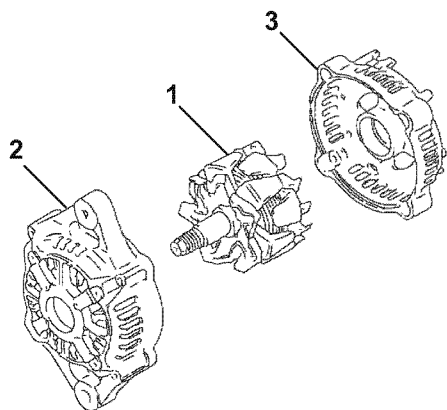

Figure 12-10
8. Using a press, remove the rotor assembly (1, **Figure 12-10**) from the front frame housing (2, **Figure 12-10**) and rear frame housing (3, **Figure 12-10**).